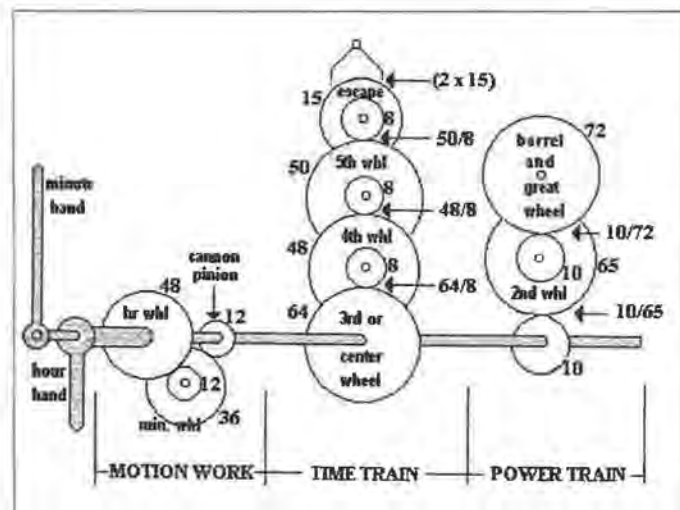

Figure 1. Hermle Movement Schematic
The Hermle movement is a contemporary three-train spring-powered Westminster Chime movement with a balance wheel escapement. A schematic of the time-related gear train is shown in Figure 1. Except for gear count and the omission of the 2nd wheel and pinion, the gear train could also represent most 30-hour watches.
Step 1: Identify the Time Train. The key to time train identification is to trace the most direct path from the minute hand to the escapement through the gear train in Figure 1.
Step 2: Form the Fractions. The first gear in the time train identified in Step 1 is the 3rd or center wheel. Imagine that power is supplied to the escapement by using the minute hand as a crank. The center wheel drives the 4th wheel pinion and so forth until the last interface, the escape wheel drives the escapement. For each gear interface in the time train starting with the center wheel, form fractions with the driving gear in the numerator and the driven gear in the denominator. (Each of the interfaces and the resultant fractions is identified in Figure 1 by an arrow). The table lists the gear interfaces in order.